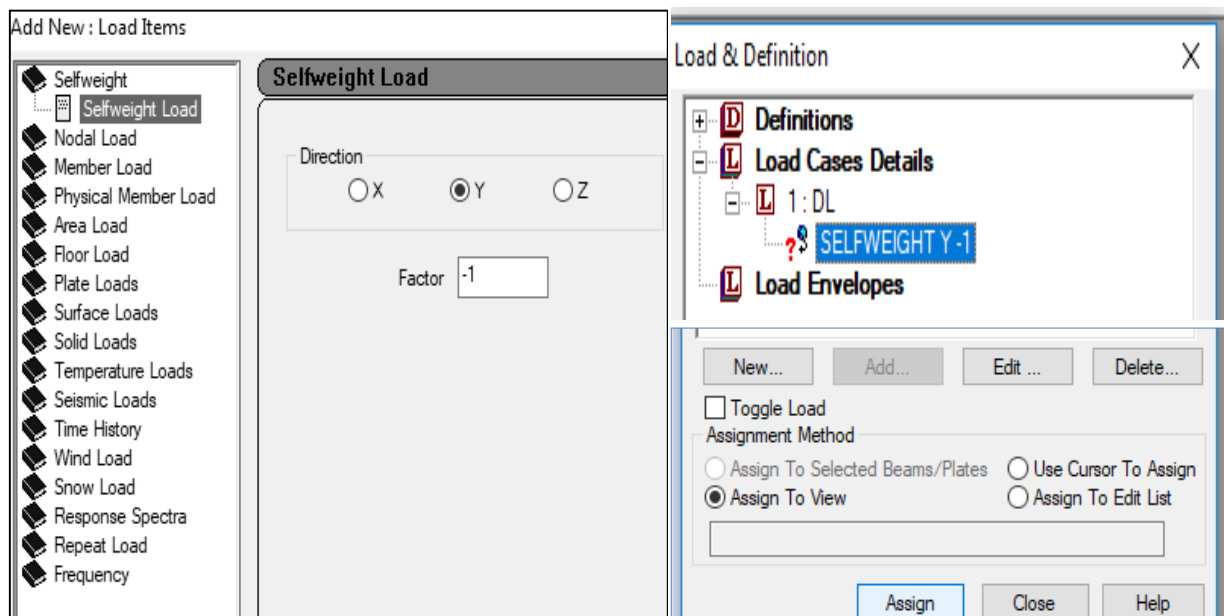

Fig: 4.26
- DL → Add → Self weight → Direction = Y, Factor = -1 → Add → Close. Then SELFWEIGHT Y-1 → Assign To View → Assign → Yes. (Fig: 4.26)